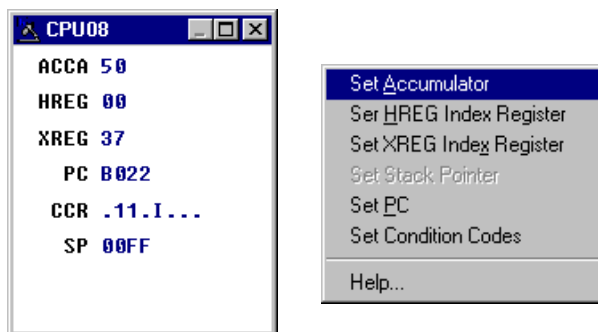

Figure 5-13. CPU Window with Shortcut Menu
Use the CPU08 window (see **Figure 5-13**) or its **Shortcut** menu options to view and modify the current state of registers within the CPU.
2. Choose the option from the shortcut menu shown on the right of **Figure 5-13**.